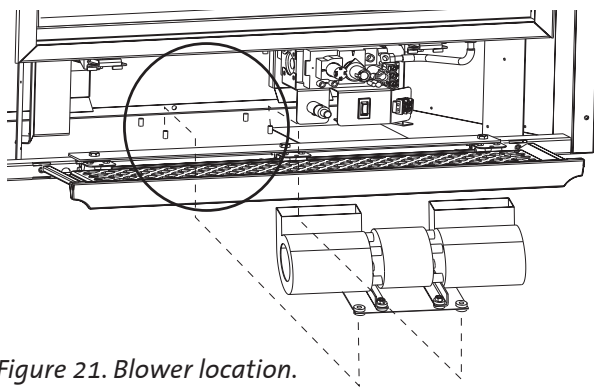

Figure 21. Blower location.
2. Engage the Blower unit base with the four studs at the rear of the fireplace cabinet floor. See Fig. 21.